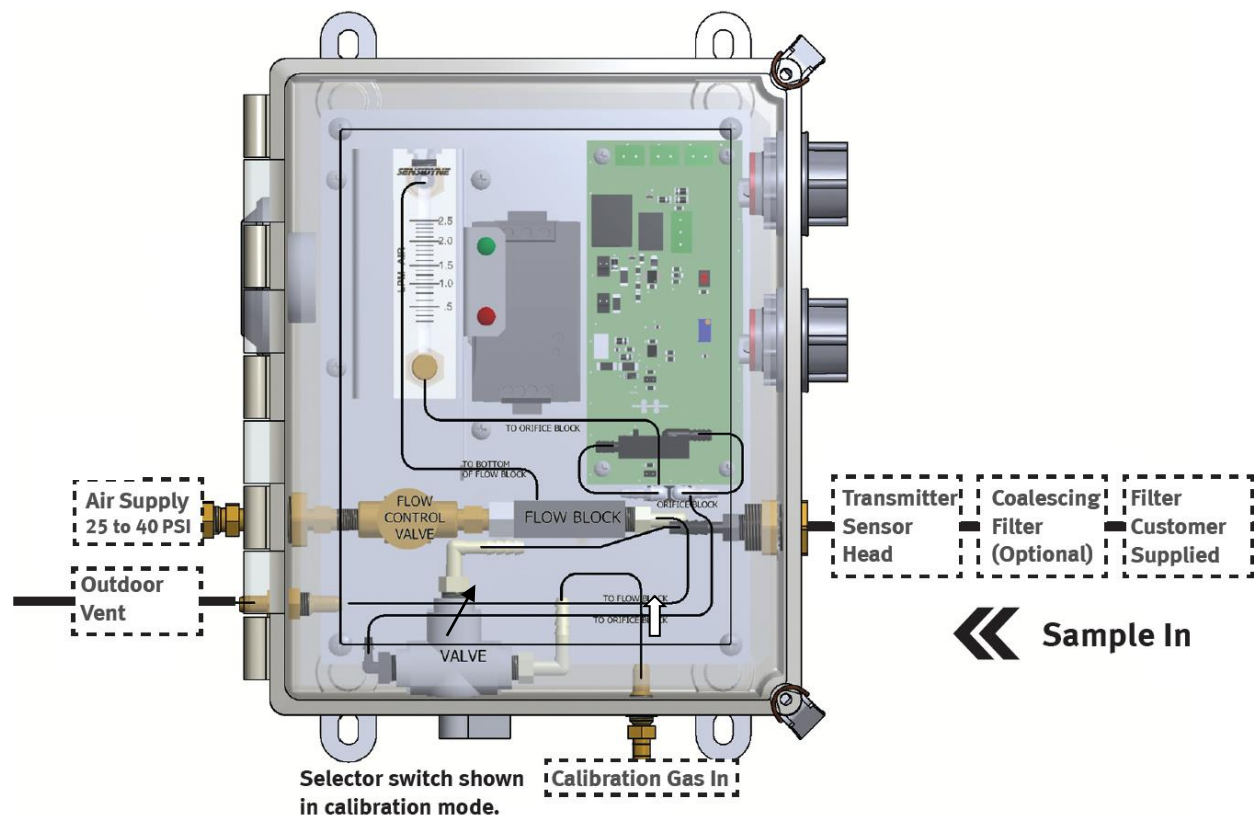

Figure 2
- 3) See Figure 2. For calibration, the Cal Gas IN selector switch must be turned 180degrees to the right. This diverts the gas flow to come from the calibration gas bottle instead of through the standard sample inlet. The flow fault alarm will be indicated as the gas flow is not going through the sample inlet.